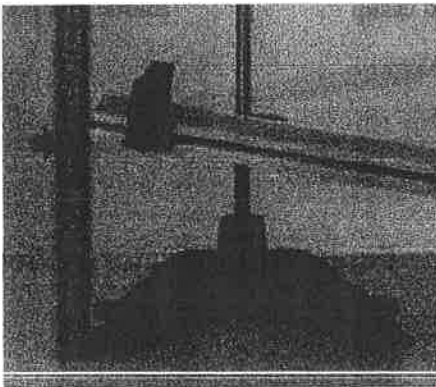

Figure 3: Measuring the Height of the Track
- I.8. With the meter stick, measure the height of the track at the top, from the table to the underside of the track (Figure 3). Record the height, in meters, below: